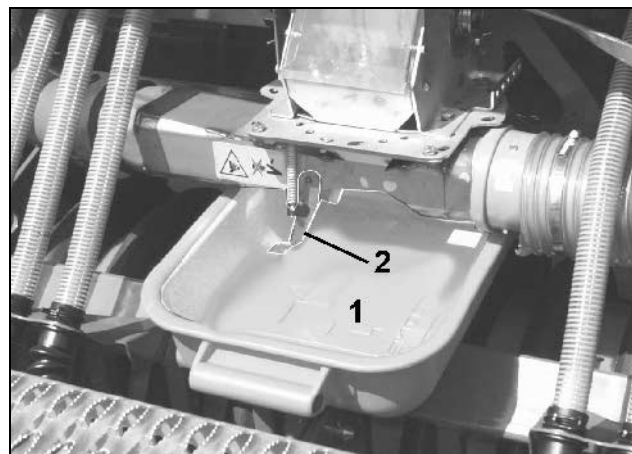

Fig. 64
- Place a calibration tray (Fig. 64/1) below every metering unit and open the injector sluice flap (Fig. 64/2) on every metering unit.
- With the calibration crank (Fig. 69/1) turn the star wheel until all metering wheel housings of the seed metering wheel(s) have been filled with seed and a uniform flow of seed runs into the calibration tray(s) (Fig. 64/1).
- shut off injector sluice flap (Fig. 64/2)